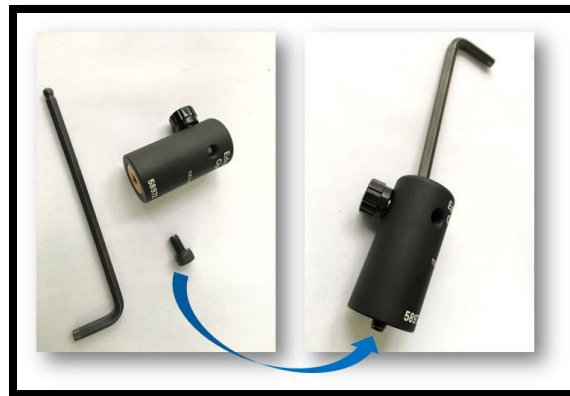

Figure 2: Placement of M6 screw into the bottom of a post holder
- Attach one M6 screw to the base of each post holder using a 7/64" Allen wrench (Allen wrenches not included), **see Figure 2, below**.
- Insert camera with steel post into the post mount labeled “Camera” in **Figure 2.**